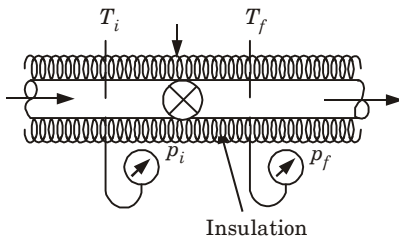

Fig. 12. Joule-Thomson expansion.
1. A gas is made to undergo continuous throttling process by a valve as shown in Fig. 12.